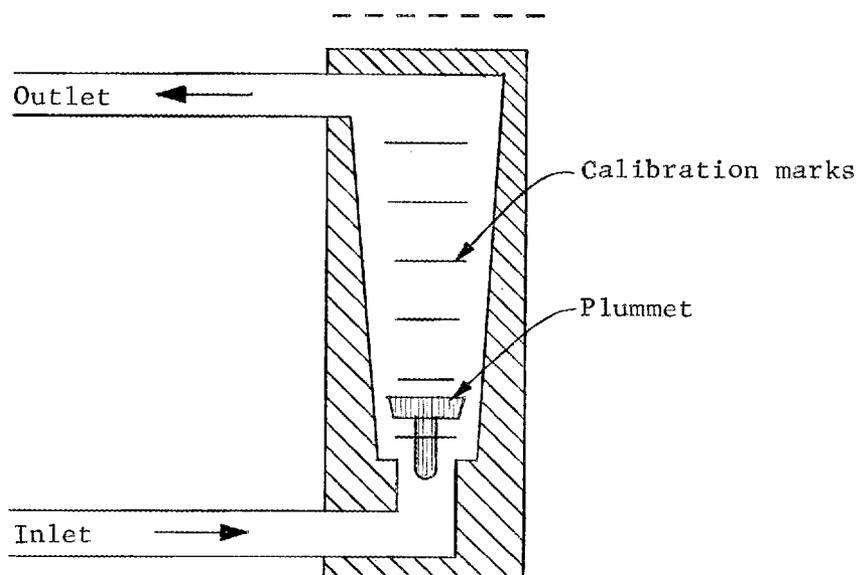

Fig. V-63. Rotameter
39. Very simply, the rotameter is an "in-line" instrument with a vertical section of transparent tubing tapered slightly outward from bottom to top (Figure V-63). Inside the tapered section is a weighted plummet or bob which is lifted by the force of the fluid moving up in the tube. As the plummet is carried up, the outward taper of the tube allows more fluid to flow around it. For a given fluid flow, the plummet is raised until its weight is equal to the force exerted by the moving fluid on the plummet. For local readout, etched calibration marks on the transparent tube allow a direct reading of flow.